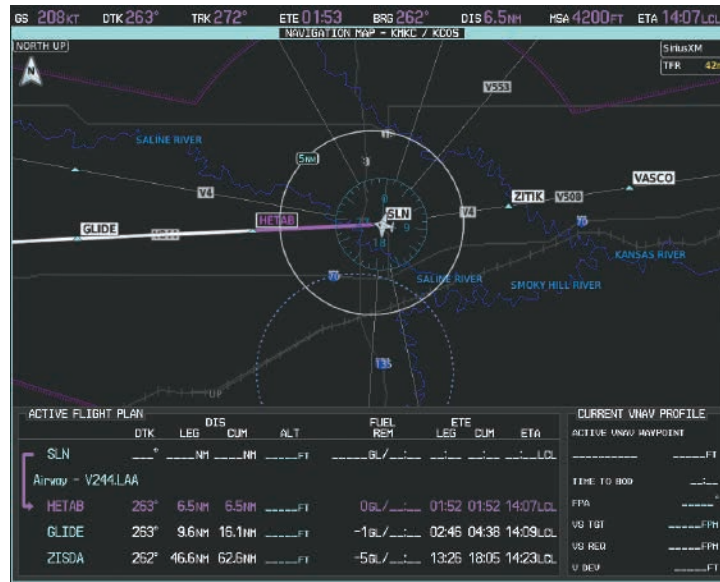

Figure 5-174 V244 Now Active Leg
9) As seen in Figure 5-174, V244 is now the active flight plan leg.